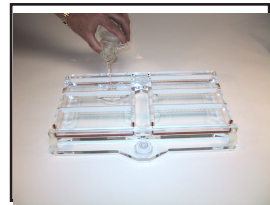

Figure 4
Pour or pipette (Figure 4) the appropriate amount (see Table 3, page 9) of warm agarose (<60°F) onto the UVT gel tray that has been placed into the casting position in the casting chamber. Immediately after pouring, insert the desired comb or combs into the comb slots to form the sample wells. Repeat with second gel tray if casting (2) gels. Allow the gel(s) to solidify completely. If a short running distance is required for proper sample separation, then 3 combs may be used. This expands the number of samples per run.